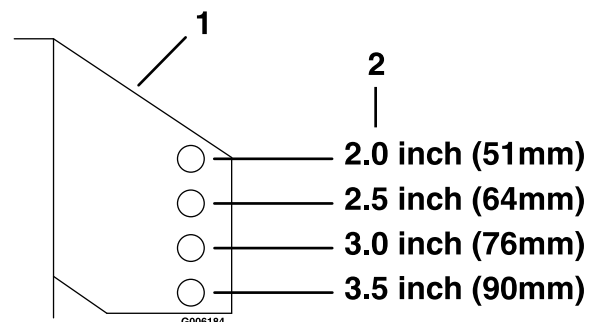

Figure 17
6. Place the rollers in one of the positions shown (Figure 17). Rollers will maintain 3/4 inch (19 mm) clearance to the ground to minimize gouging and roller wear or damage.